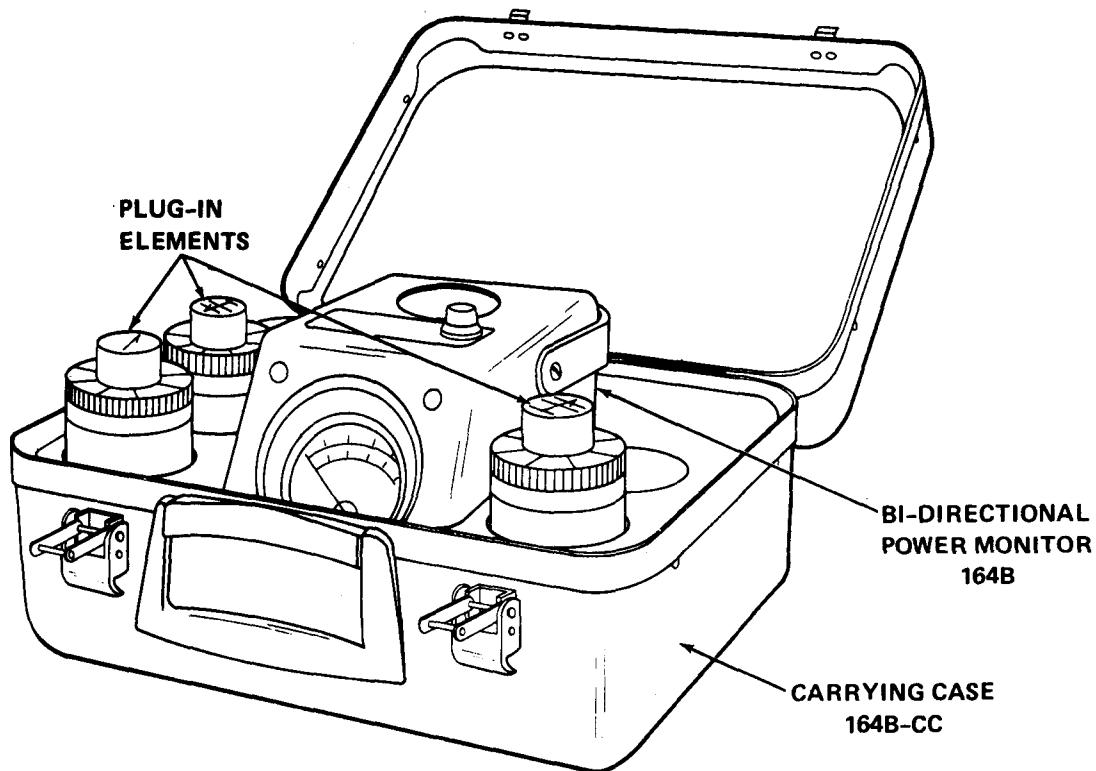

Figure 1. Sierra 164B-G3 Bi-Directional Power Monitor Set
1.01 This manual covers the Sierra 164B-C3 Bi-Directional Power Monitor Set. Included are description, specifications, operation, maintenance, and a replaceable parts list. The components of the Bi-Directional Power Monitor Set are as follows (see Figure 1):